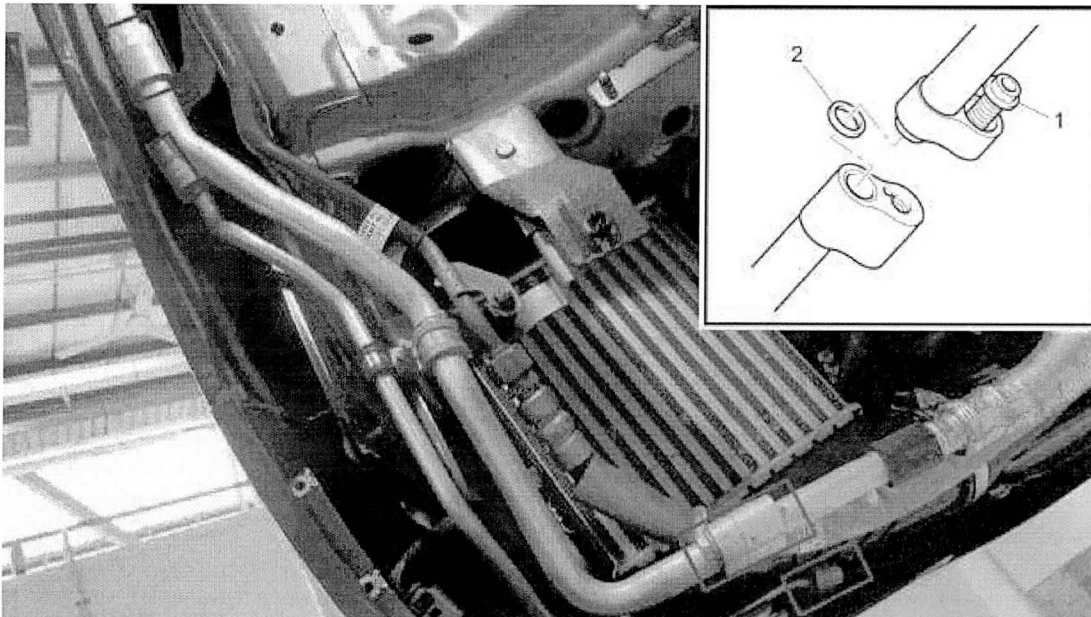

Figure 5
2. Locate the four joints securing the two pipes (see Figure 5). For each of the four joints remove the retaining screw -1- then separate the two pipes, discard the O ring -2-